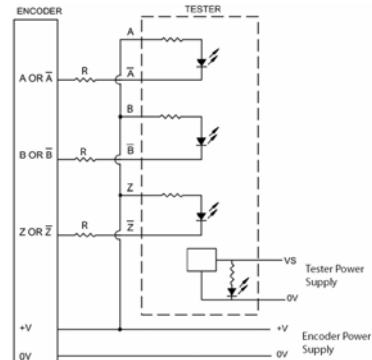

Figure 3
1. Connect the terminals for the encoder tester labeled A, B, and Z to the positive side of the power supply common from the encoder (See Figure 3).